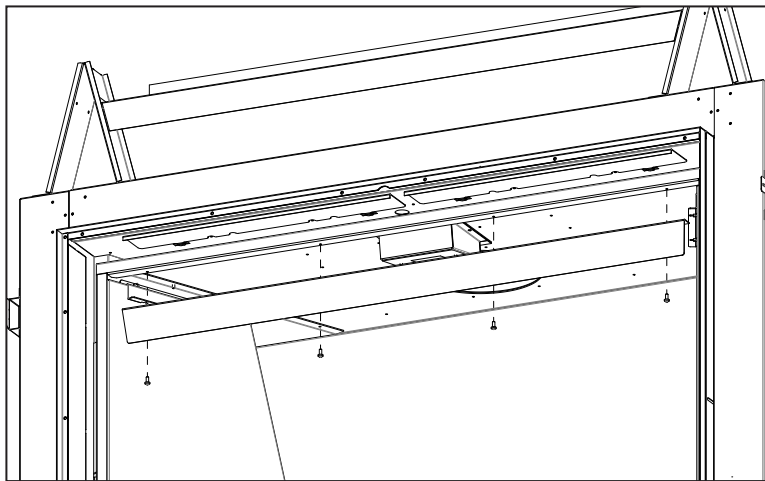

Figure 76: Light Deflector Removal
**Step 2.** Remove light deflector by removing the four (4) retaining T-20 screws (see Figure 76).